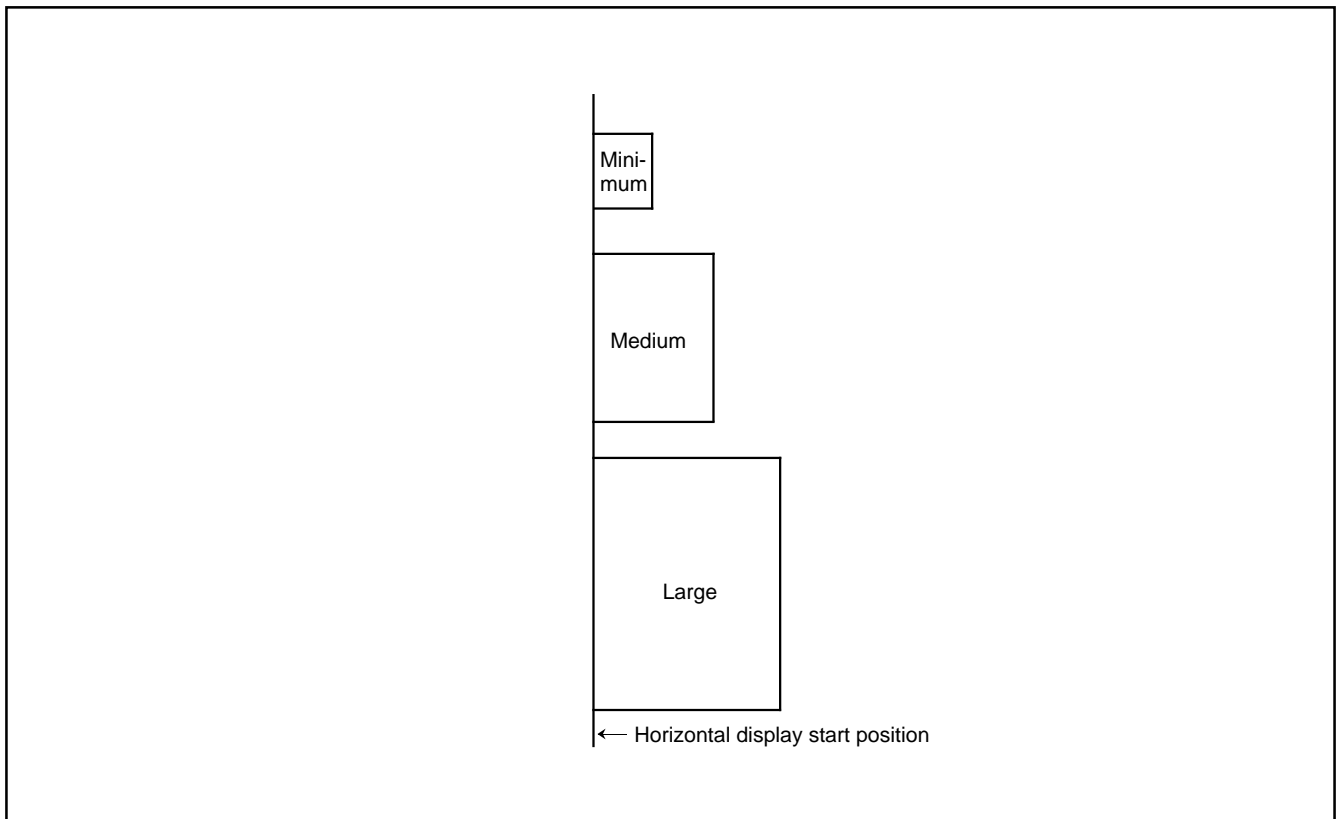

Fig. 8.11.9 Display Start Position of Each Character Size (Horizontal Direction)
**Notes 1:** The display start position in the horizontal direction is not affected by the character size. In other words, the horizontal display start position is common to all blocks even when the character size varies with each block (refer to Figure 8.11.9).